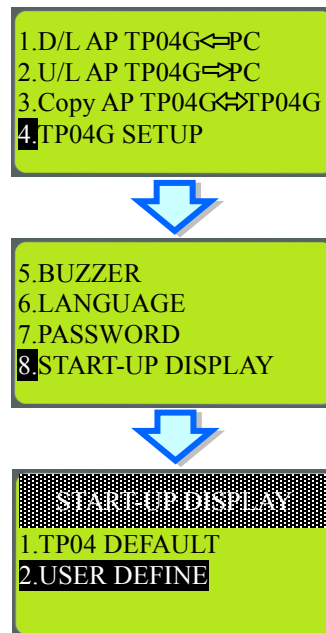

Figure 6-13 Setting a user-defined page
- Step 6: The users have to touch **4.TP04G SETUP**, touch **8. START-UP DISPLAY**, and touch **2. USER DEFINE** on the screen of the TP04G series text panel in order, as shown in Figure 6-13. After they set the TP04G series text panel, the boot page displayed on the TP04G series text